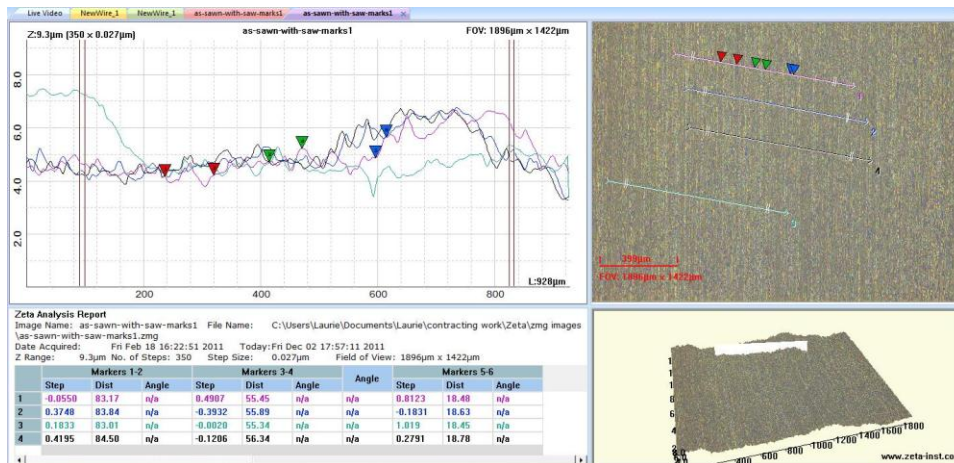

Fig. 65. Profile markers
4. Click *Add Marker*. Two numbered red triangles (markers) appear above the active profile, and are also shown on the 2D image. An example is shown in Fig. 65.